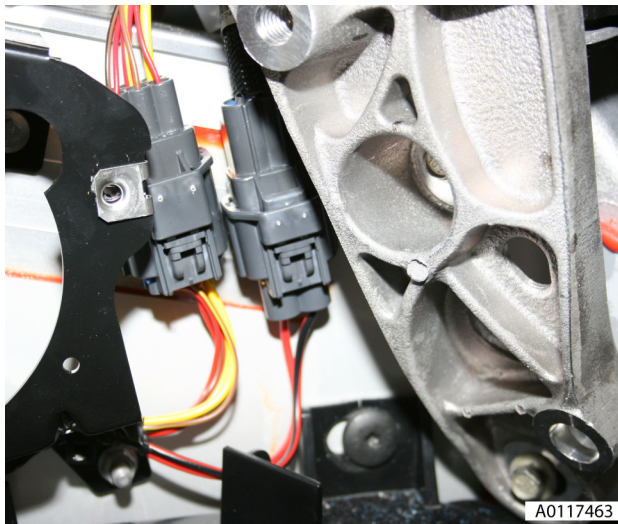

Fig. 10
24. Disconnect multiplugs (x2) and feed into tonneau area (LH) (see Fig. 10).